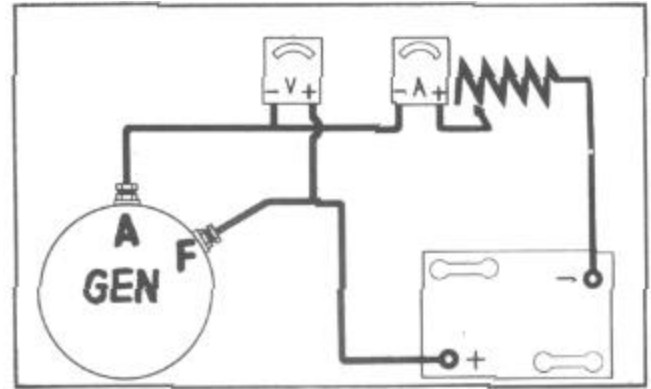

FIGURE 10
1. Connect ammeter, battery and variable resistor in series with the field coil terminals. (Figure 10).